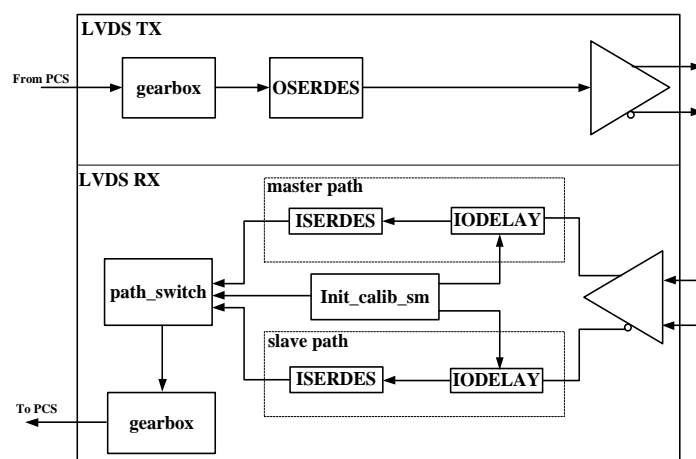

Figure 2-17 LVDS Transceiver Function Diagram
An LVDS transceiver is implemented using FPGA IO logic resources, primarily to accomplish the functions of serialization, deserialization, and data synchronization corresponding to the PMA. It supports the transmission of differential signals using LVDS25 or LVDS18 I/O standards. The functional diagram of the LVDS transceiver is shown in Figure 2-17. For related IO logic hardware primitives, please refer to *"UG040006_Logos2 Family FPGAs Input/Output Interface (IO) User Guide"*, *"UG050006_Titan2 Family FPGA Input/Output Interface (IO) User Guide"*, and *"UG100006_Kosmo2 Family SoPC Input/Output Interface (IO) User Guide"*.
The parallel data transmitted by the PCS is converted to serial via OSERDES and then driven as a serial output at LVDS levels. The incoming serial data can be received via two paths as shown in Figure 2-17, namely the master path and the slave path. Sampling and serial-to-parallel conversion are performed in each path independently. One of the paths is then selected to convey the parallel data to the PCS.